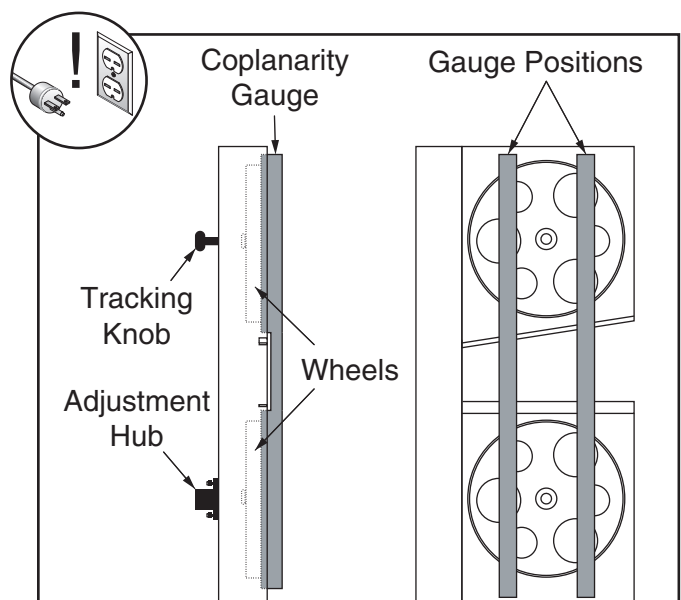

Figure 60. Checking for coplanarity.
5. Place your coplanarity gauge up against both wheels in the positions shown in **Figure 60**.